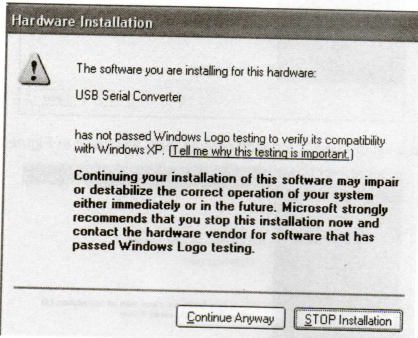

Figure 4
4. If Windows XP is configured to warn when unsigned (non-WHQL certified) drivers are about to be installed, the message dialogue shown in Figure 4 will be displayed unless installing a Microsoft WHQL certified driver. Click on "Continue Anyway" to continue with the installation. If Windows XP is configured to ignore file signature warnings, no message will appear